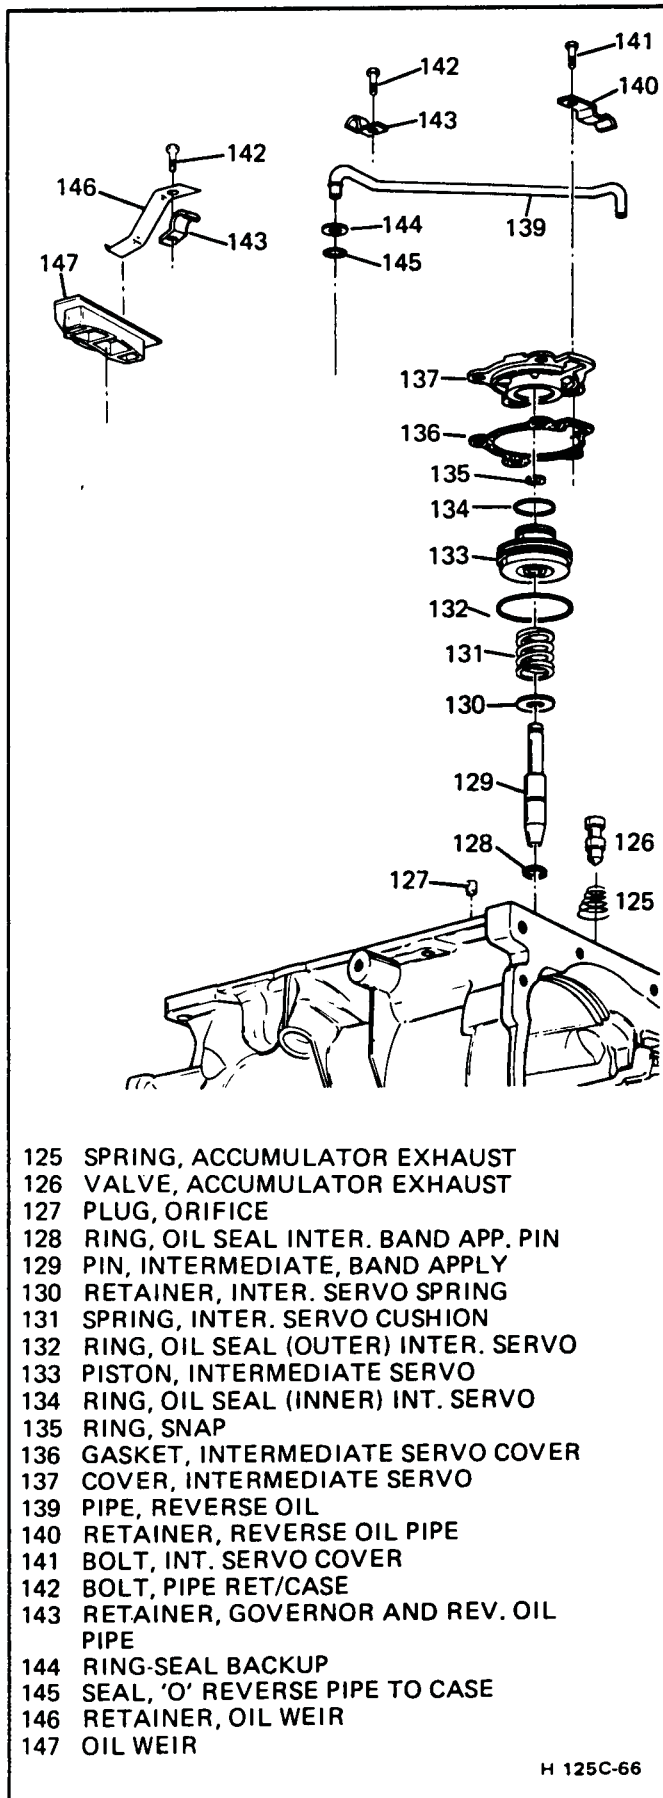

Figure 6 Oil Pipes &amp; Servo Assembly
1. Install J-28535 on case (112) and pin (129) into the gage.
- If the white line does not appear, select another length pin. (Figure 6) Repeat procedure.